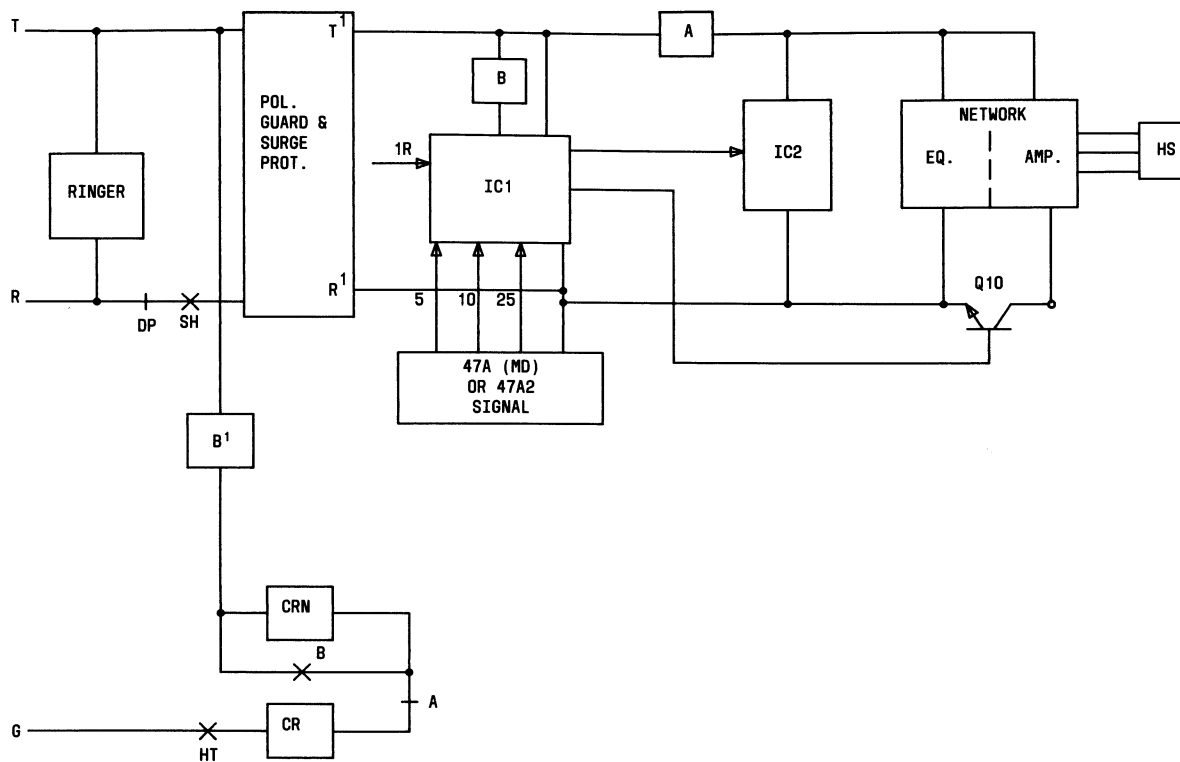

Fig. 1—1D1/2D1 Coin Telephone Set, Schematic
2.01 Fig. 1 and 2 show block diagrams of rotary and TOUCH-TONE coin telephone sets, respectively. The 32A coin chassis includes an active network for speech equalization, the ringer, and a dual frequency coin tone oscillator. The front cover consists of a dial, switchhook, handset, and terminal board (TB2), which connects to the chassis via an 11-pin connector (J1). The 47A (MD) or 47A2 signal is attached to the side of the coin chute where coins are sensed as they leave the lower chute area. The 47A (MD) or 47A2 signal connects to the chassis via a 15-pin connector (J2).